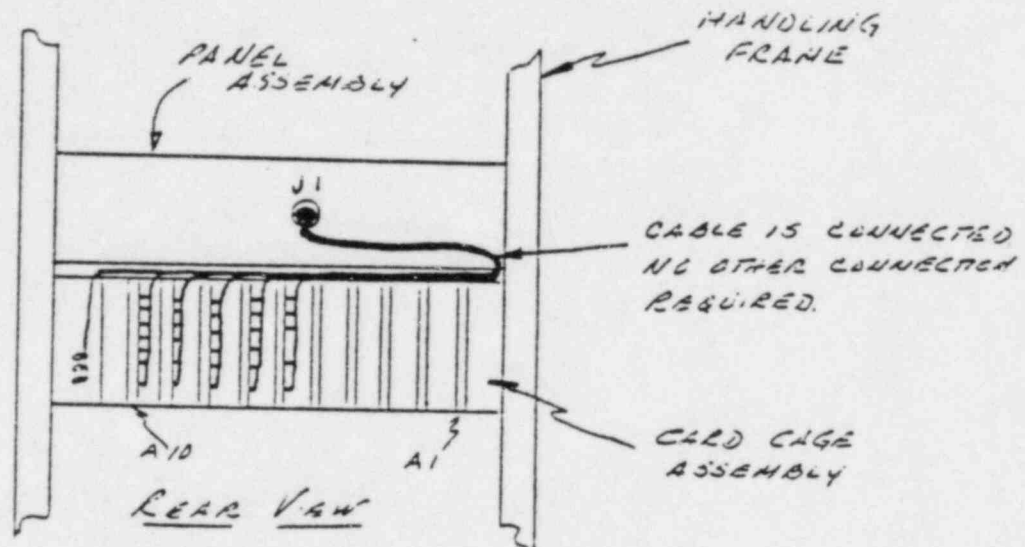

Figure 1A
- 4.1.2 Connect the cage assembly and display assembly per Figure 1A. Remove the resistor connected between terminals A8-4 and A8-5.